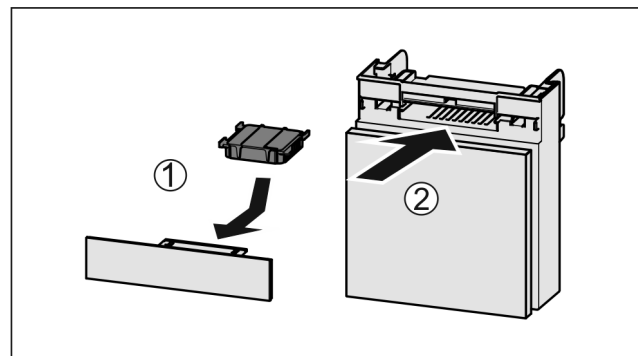

Fig. 125
- ▶ Insert the carbon filter as shown in the diagram Fig. 125 (1).
- ▶ Push the compartment in Fig. 125 (2).